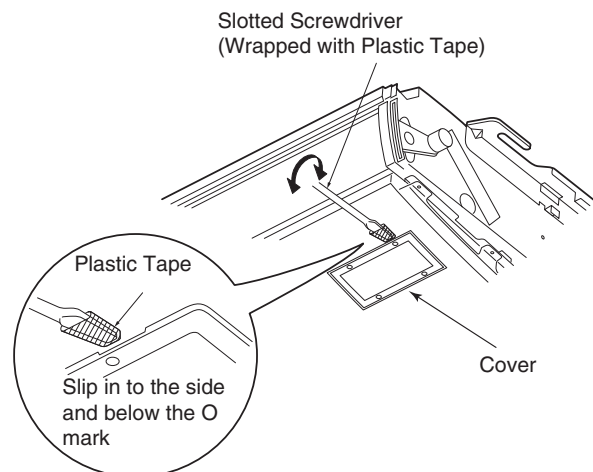
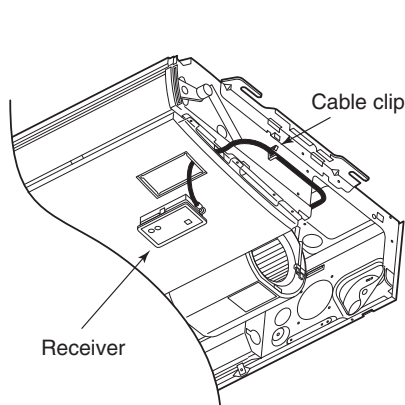

Fig. 8-7
Fig. 8-8
- (2) Wrap the tip of a slotted screwdriver with plastic tape and then slip it in to the side of and under where O is printed on the cover, wiggling the cover free. (Fig. 8-7) (Be careful not to scratch the panel.)
- (3) After passing the lead wire through the panel, install the receiver in the hole in the panel. (The projecting parts of the receiver is held in the hole in the panel)
- (4) Fasten the receiver's lead wire to the cable clip that is holding the wire from the louver motor. (Fig. 8-8)
- (5) Attach the side panel.